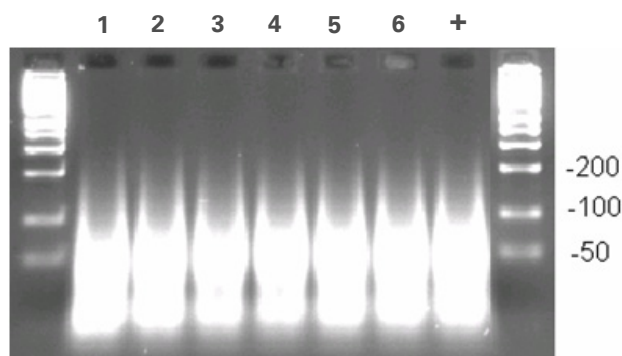

Figure 4.26 Typical example of fragmented PCR products run on 4% TBE agarose gel at 120V for 30 min to 1 hr. Average fragment size is < 180 bp.
7. Inspect the gel and compare it against the example shown in Figure 4.26 below.